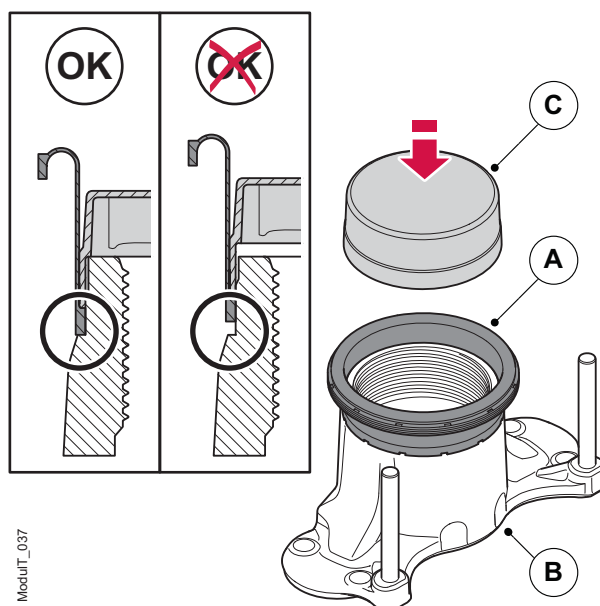

Figure 44. Fitting the adjustment screw bellows
4. By hand, using Haldex special tool P/N 95224 (C), firmly press the adjustment screw bellows (A) into position on the thrust plate (B), see figure 44.
Also, re-check the bellows is seated correctly on the thrust plate, see previous figure 44.